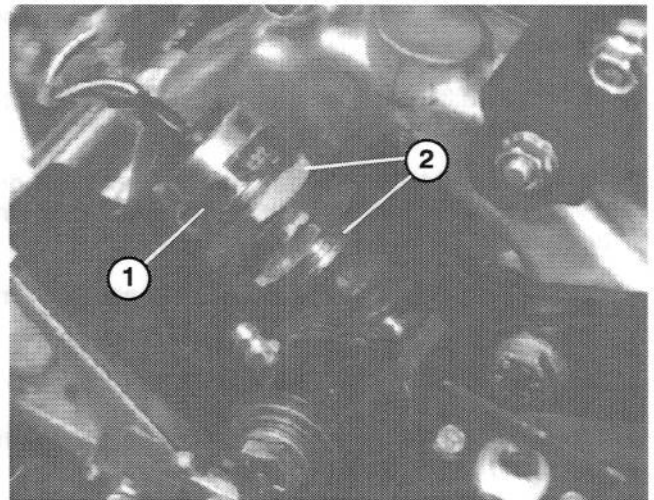

Figure 42
2. Loosen (2) switch mounting nuts (Fig. 42) and move switch until switch plunger is depressed $.18 \pm .06$ " (switch closed).